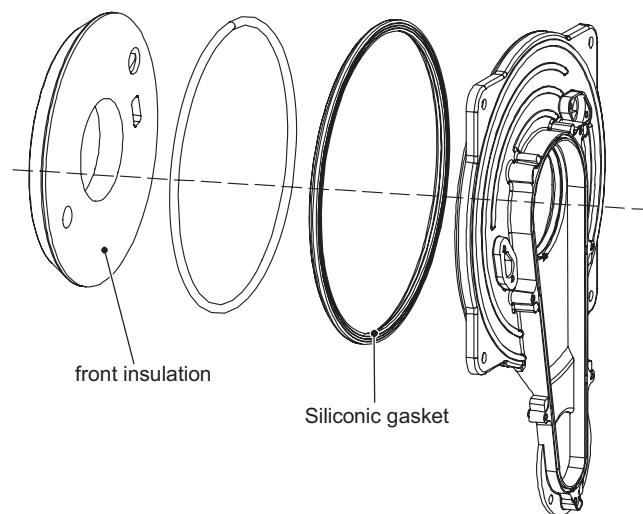

Figure 18.6
- 3 Remove the front insulation panel (Figure 18.6).
After any periodical servicing or disturbance the combustion chamber silicon seal (Figure 18.6) must be fully inspected and replaced at the discretion of the service engineer.